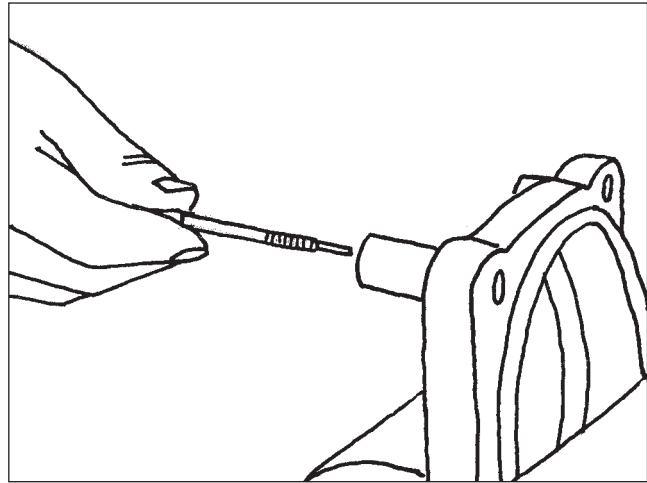

Figure 42
6. Remove the plunger body from the spring pin. It may be necessary to lightly tap the plunger body to remove it from the spring pin. Use of an 1/8" pin punch is recommended. (Figure 42).